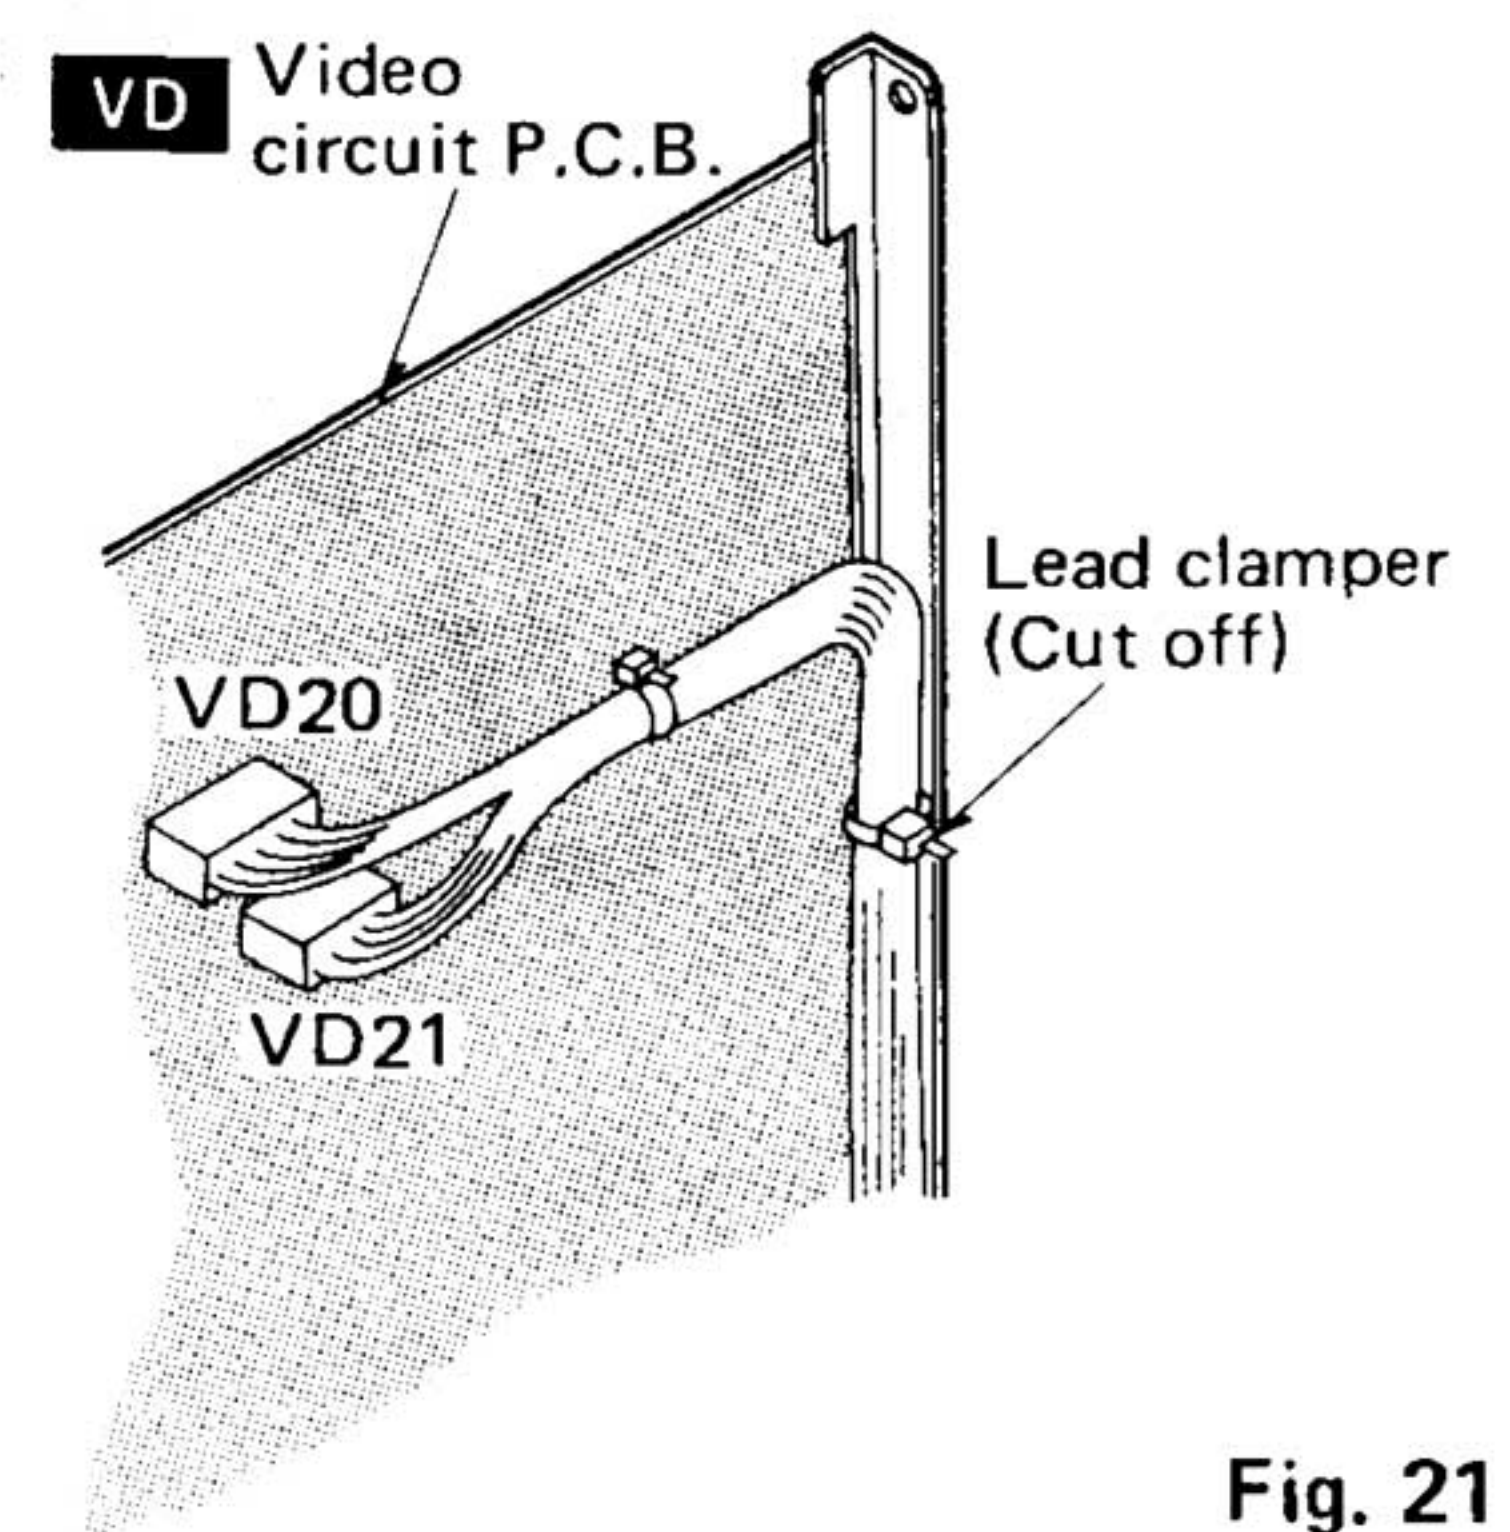

Fig. 21
4. Raise the video P.C.B. and pull out the connectors VD20 and VD21. Then cut off the lead wire clamber. (See Fig. 21)